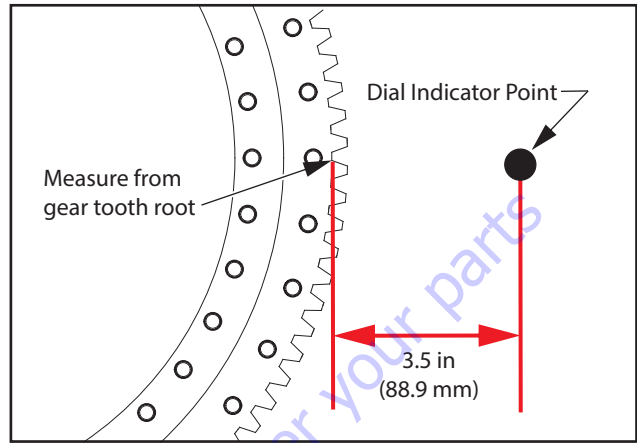
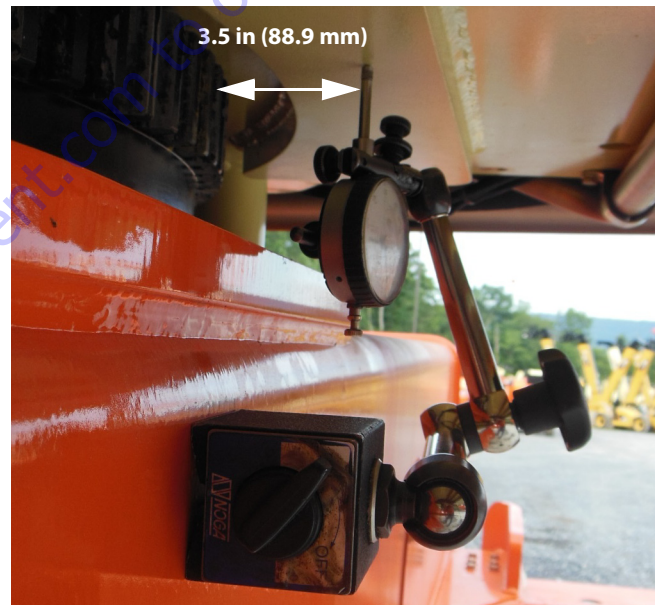

Figure 3-65. Turntable Bearing Measurement Point
Figure 3-66. Dial Indicator Measurement Location
- c. Position indicator point to measure turntable base plate (on doubling plate) 3.5 in (88.9 mm) from gear tooth root as shown in Figure 3-65. and Figure 3-66.